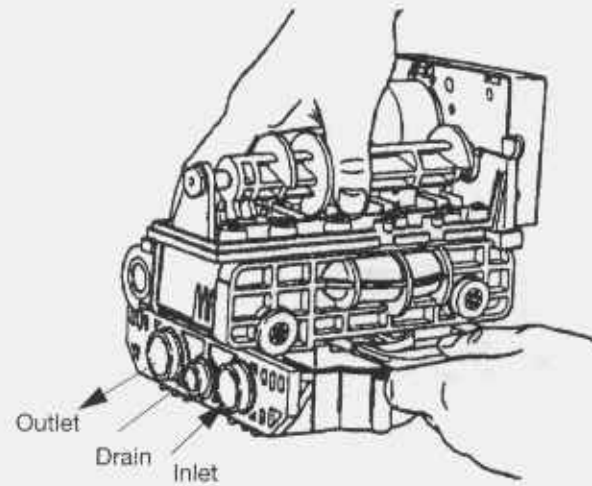

Figure 13
- Apply downward hand pressure on control and pull locking bar out (Figure 13).